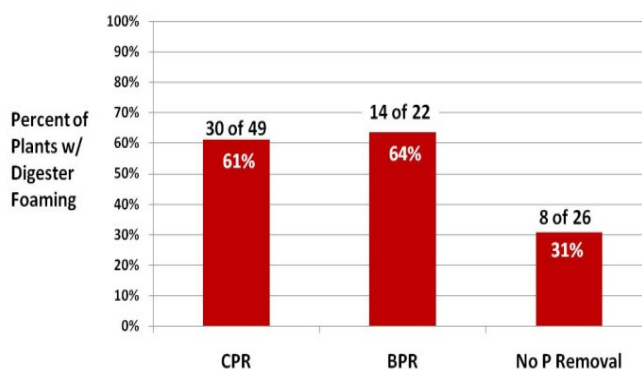

Figure 8: Foaming vs. P removal
- More than 60% of the plants that remove phosphorus experienced digester foaming, whereas about 30% of the plants with no phosphorus removal experienced foaming [Figure 8].